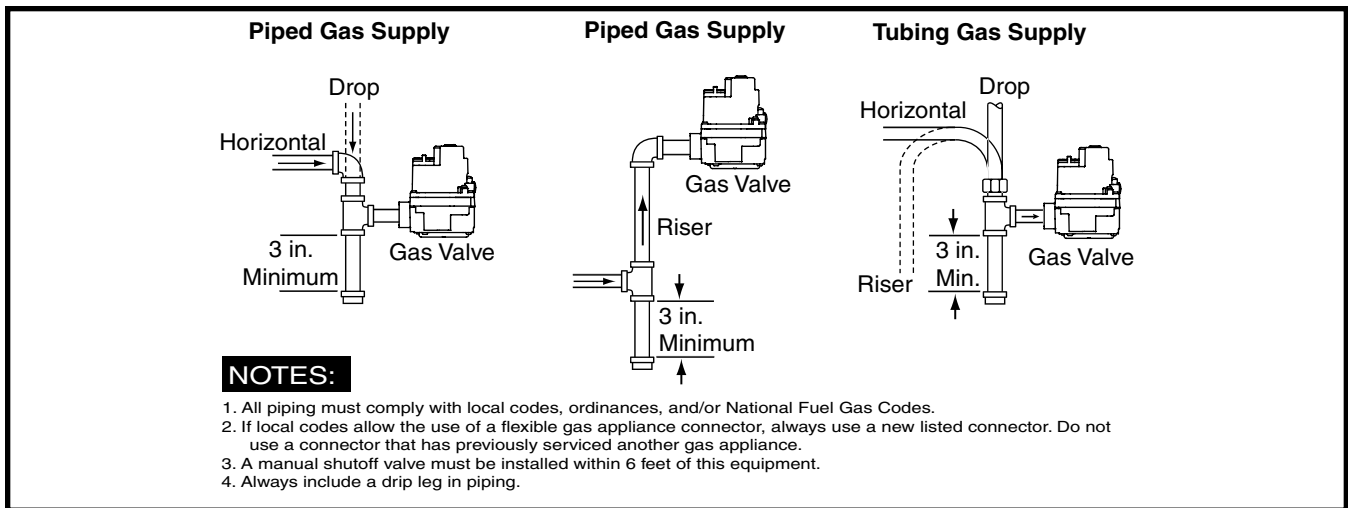

Figure 9. Typical Gas Service Connection
- Some local codes require the installation of a manual main shut-off valve and ground joint union external to the furnace. The shut-off valve should be readily accessible for service and/or emergency use. See Figure 9. Consult the local utility or gas supplier for additional requirements regarding placement of the manual main gas shut-off.
- A drip leg should be installed in the vertical pipe run to the unit. See Figure 9.
A typical gas service hookup is shown in Figure 9.